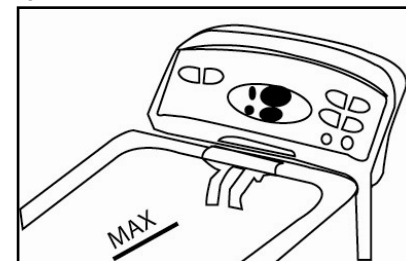

Fig. 2
- The oil level must always be maintained between the minimum and the maximum levels marked inside the oil container. Check the oil level before each use. For best results, **Do NOT** exceed "MAX" level for cooking oil. (Fig. 2)